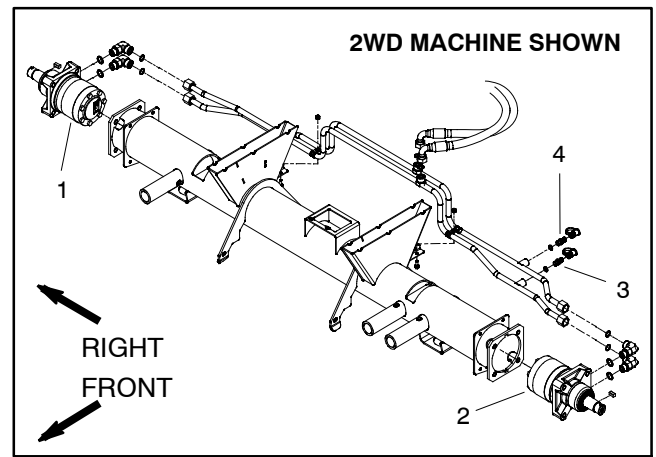

Figure 27
3. Thoroughly clean traction circuit test port on hydraulic tube for direction to be checked (Fig. 27). Connect a 5000 PSI (350 bar) pressure gauge to test port.
5. Make sure hydraulic oil is at normal operating temperature by operating the machine under load for approximately ten (10) minutes.